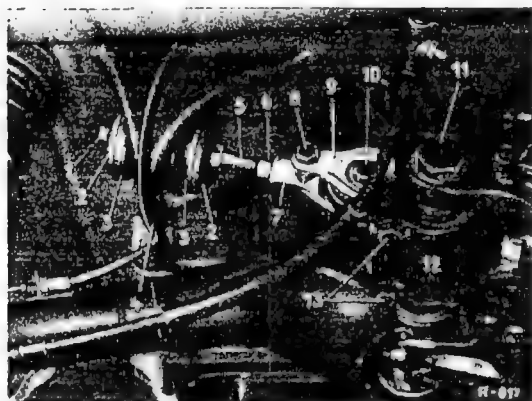

Fig. 35-1/6
10. Screw out the hexagon screws (8) and (10) on the front link (9) of the cross strut (5) for the rear axle. Take off the front link, loosen the rear link (7) a little and push the cross strut backward (Fig. 35-1/6).